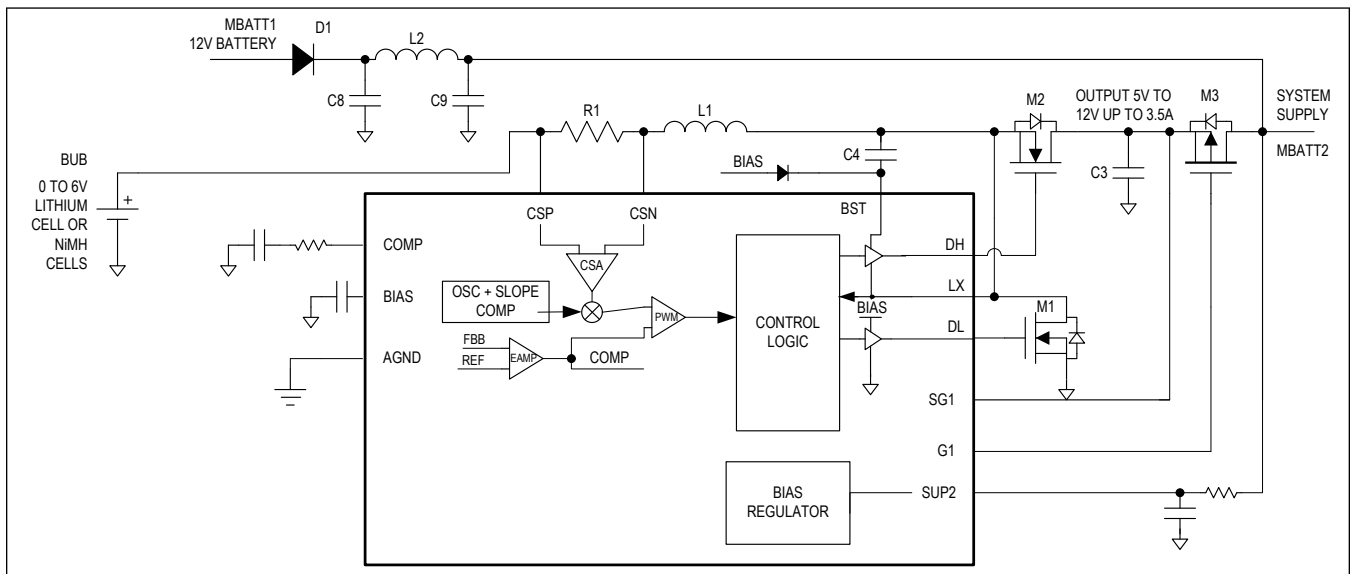

Figure 3. Boost Block Diagram
The ICs have low standby supply current, as mentioned in the Electrical Characteristics table, but still allow for 250µs (max) quick turn-on time once V_{SUP2} falls below BST_OV_F . I²C settings are held during the low-standby mode. In this mode, MOSFET M3 (see Figure 3) is OFF until the boost's overvoltage (OV) falling threshold triggers, and then it turns ON.